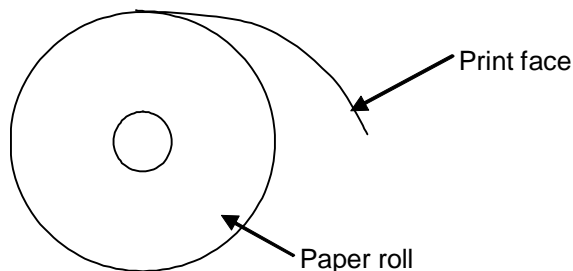

Figure 2.2.5 Paper Take-up Direction
- 5) Paper take-up direction: Outside of the paper must be printed on. (See Figure 2.2.5.)